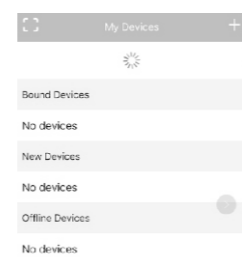

fig.7
2. Complete the information and click [Submit] After the registration is completed, login automatically and enter "My Device" (Fig. 7).